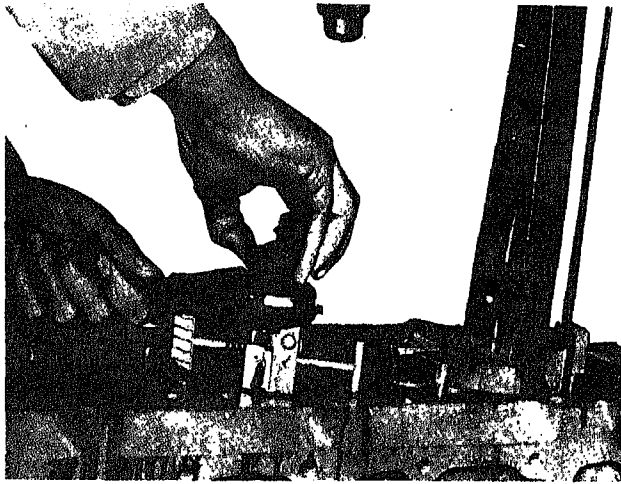

Fig. 1-2-4. Initial stone expansion
7. Insert hone assembly into top of cylinder liner. Raise center pinion (knurled nut) assembly ¼ in. [6.3500 mm] and turn counterclockwise (left) to expand stones to approximate bore size, Fig. 1-2-4. Push center pinion down until its inside gear engages outside gear on hone body. Attach hone to quick coupler.